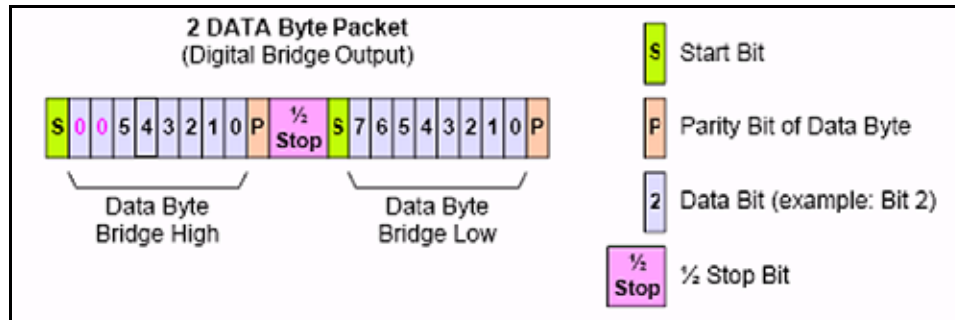

Figure 7: Digital Output Bridge Readings
The sensor first transmits the high byte of *pressure data*, followed by the low byte. The data resolution is 14-bits, so the upper two bits of the high byte are always zero padded. There is a half stop bit time between bytes in a packet. That means that, for the time of half a bit width, the signal level is high. Combining the high and low data bytes provides a 14-bit number corresponding to the pressure reading (see *Figure 7* below).
*this is the 14-bit number referenced in Figure 7 above, in decimal format